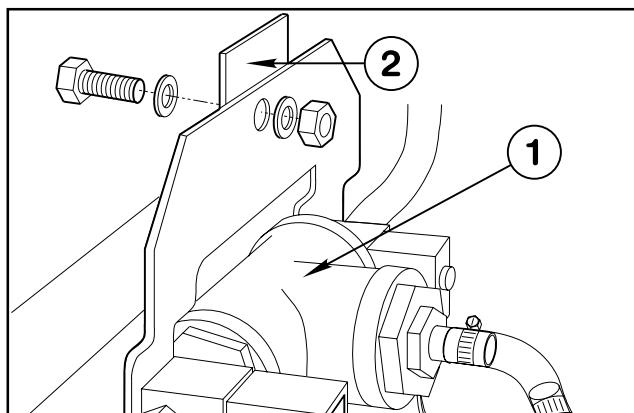

Fig. 12
4. Mount Mixer Assembly to angle on Center Boom Assembly with a 3/8" x 1" hex hd. cap screw, flatwasher, and locknut. Tighten securely. (Fig. 12)